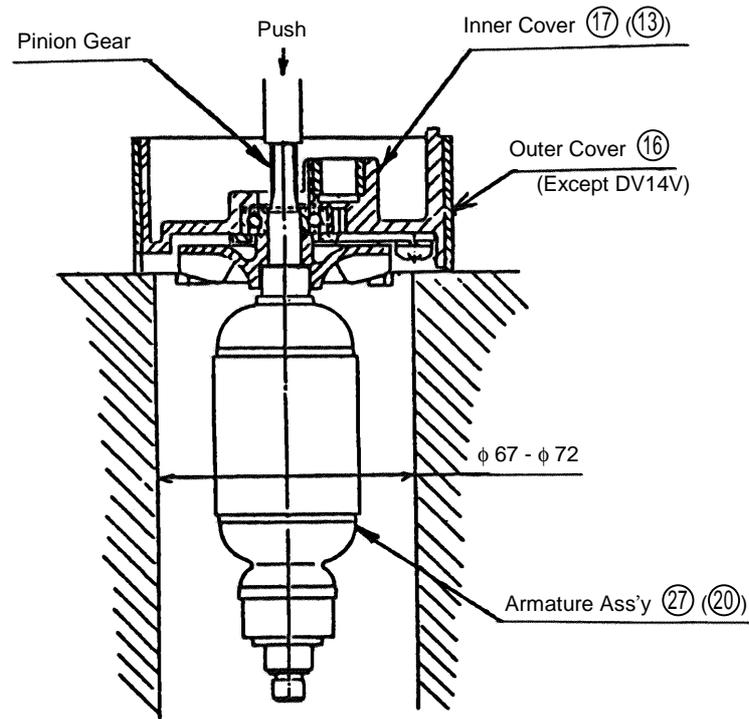

Fig. 6
- (4) Separate the Armature from the Inner Cover Ass'y:
As illustrated in Fig. 6, support the Inner Cover Ass'y (17) (13) with a tubular jig, and push down on the tip of the pinion gear of the Armature (27) (20).